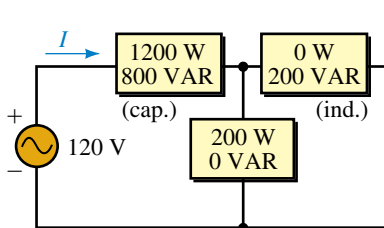

FIGURE 17-43
20. For the circuit of Figure 17-43, what is the source current?